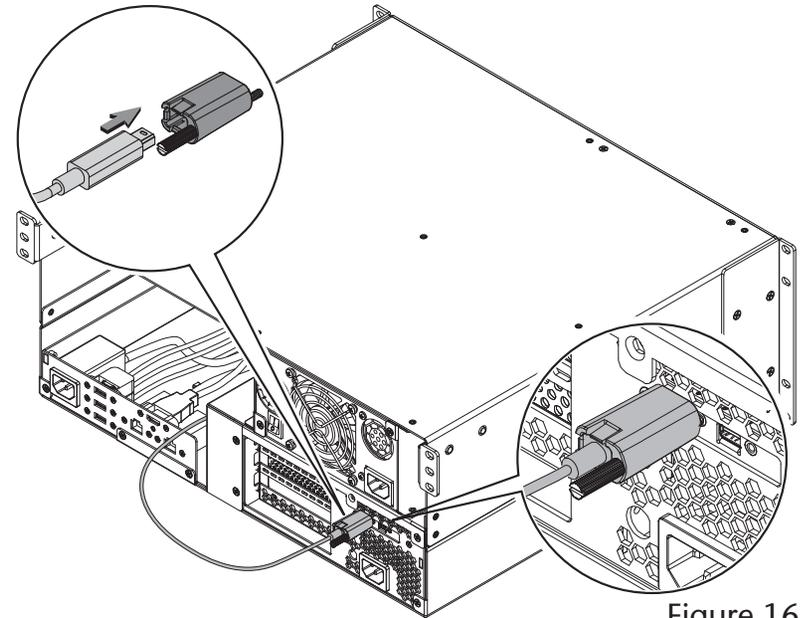

Figure 16
To attach the clip to the cable, remove them from their packaging, and then insert the connector into the connector clip as shown (Figure 16). Note that the connector will pass all the way through the clip; when you connect the cable to the chassis, the clip will secure the cable.
12. Plug in the included Thunderbolt cable to either Thunderbolt port on the PCIe card expansion module (Figure 16). Secure the retainer clip to the chassis if you attached it.
16. Using one of the screws you removed previously, secure the front panel to the rackmount enclosure, inserting the screw into the hole next to the power switch opening. Verify the power switch operates smoothly (Figure 16).